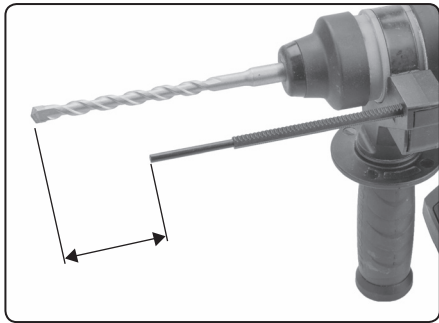

Fig. 4
- For the purpose of measuring the depth of the drilled hole, it is possible to slide a depth gauge into the hole in the handle by pressing on the button (fig. 1, position 11) and to set it to the required drilling depth. After releasing the button (fig. 1, position 11) the depth gauge will be secured in the handle. The distance between the end of the depth gauge and the end of the drill bit defines the depth of the drill hole (fig. 4).